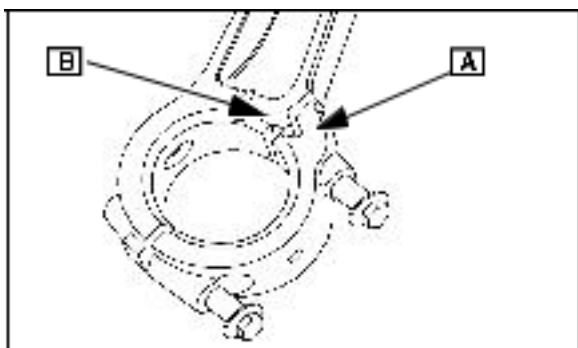

Fig. 24
NOTE: (28Q700) The notch in the connecting rod cap (A) must engage the tab on the connecting rod ([B] Fig. 24).